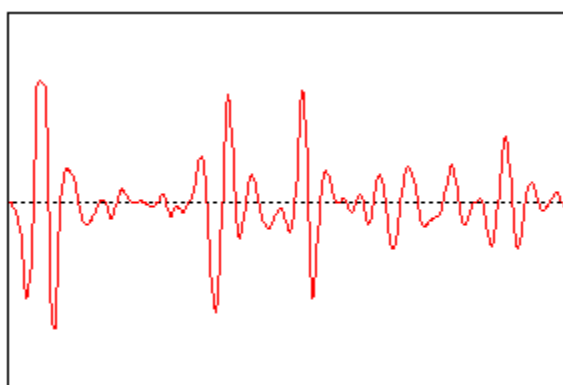
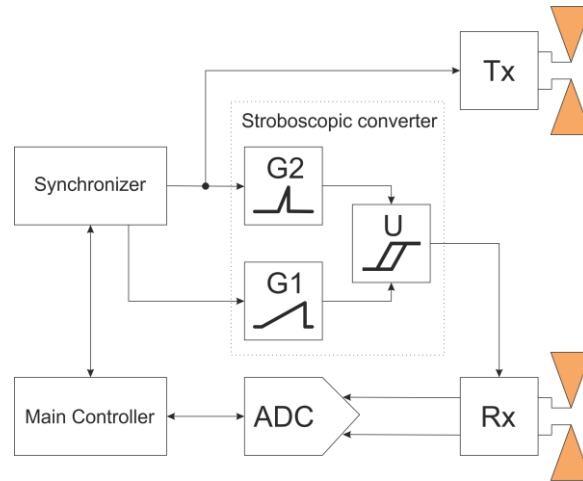

Fig. 2.3. Received signal example
Fig. 2.4. Block diagram of the georadar of “**Zond-12e**” and “**Python-3**” GPR families based on the stroboscopic method
The process shown in Fig. 2.3 is very fast and takes units or hundreds of nanoseconds and is technically difficult to process. One of the first solutions was the use of the stroboscopic method of signal digitizing (Fig. 2.4.), as in the “**Zond-12e**” and “**Python-3**” GPR families. The stroboscopic method is based on the thesis that the GPR and its antenna are in the same place for a relatively ultra-short millisecond time interval.
- **Trace** – a set of samples containing one-dimensional information about the reflected signals. Examples of traces are shown in Fig.2.3 and 4.1.